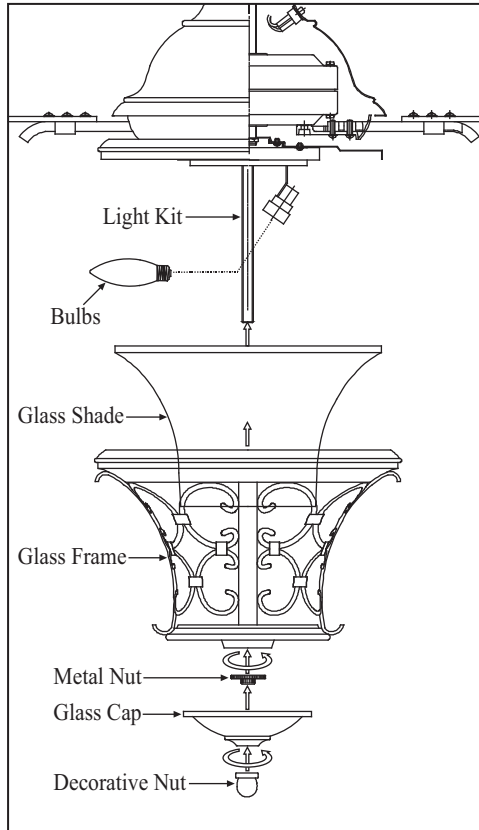

Figure 20
1. Install 3 x 40W candelabra bulbs (included). (Fig. 20)
2. Remove the decorative nut and metal nut from the light kit. Place the glass shade over the light kit stem and secure with the metal nut (rubber side on the top). Place the glass frame over the light kit stem, secure with the glass cap and decorative nut. **Do not overtighten.** (Fig. 20)